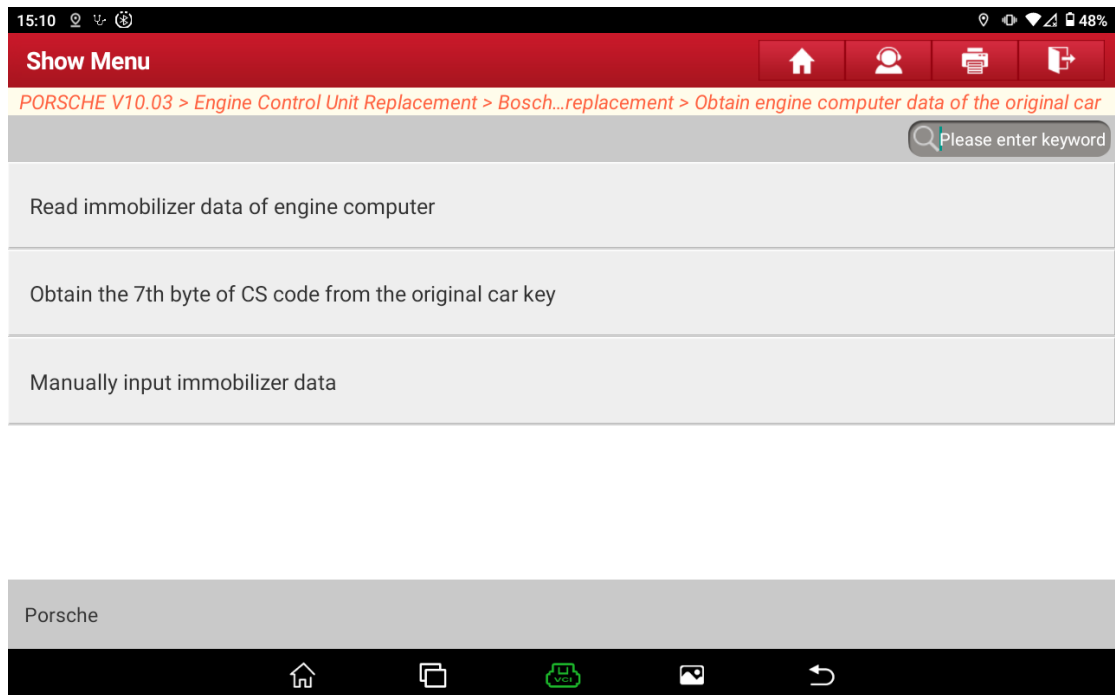

Figure 3 Obtain engine computer data of the original car
3. Choose [Obtain engine computer data of the original car]. You can read the data through OBD or manual input, as shown in Figure 3.